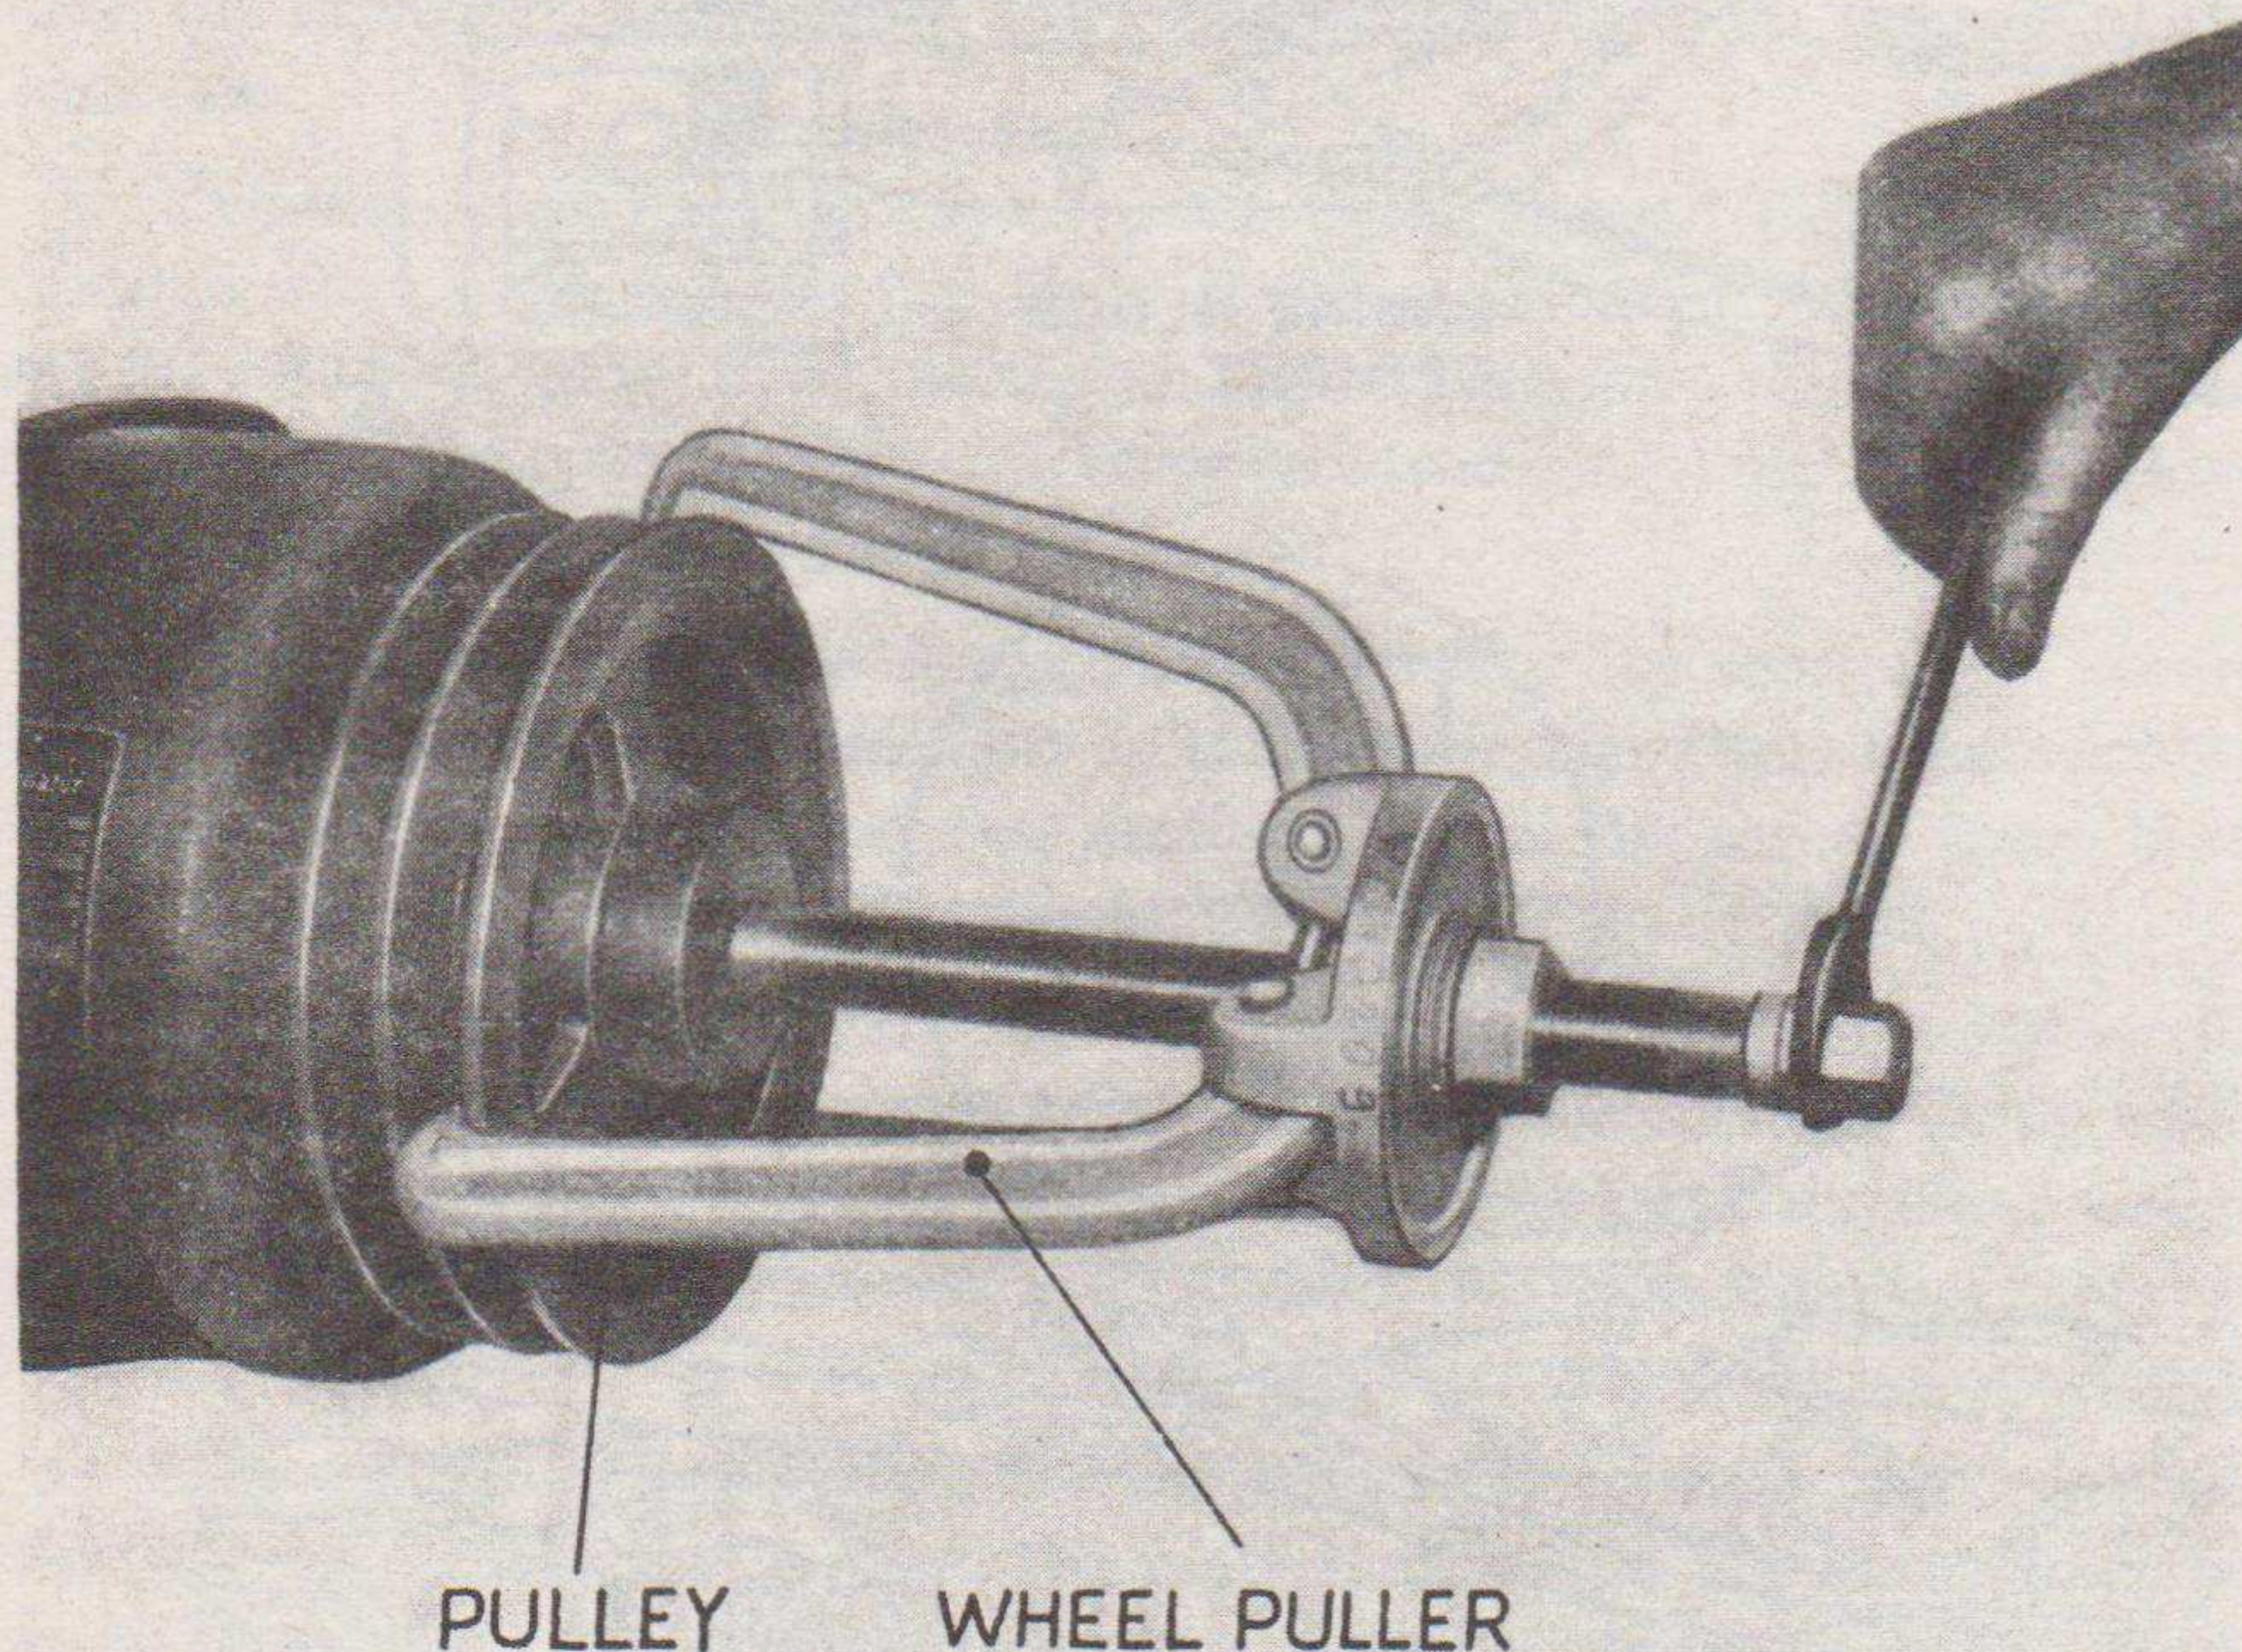

Figure 18. Removing generator pulley.
b. *Pulley Removal* (fig. 18). Secure a suitable puller and pull the drive pulley from the generator shaft.